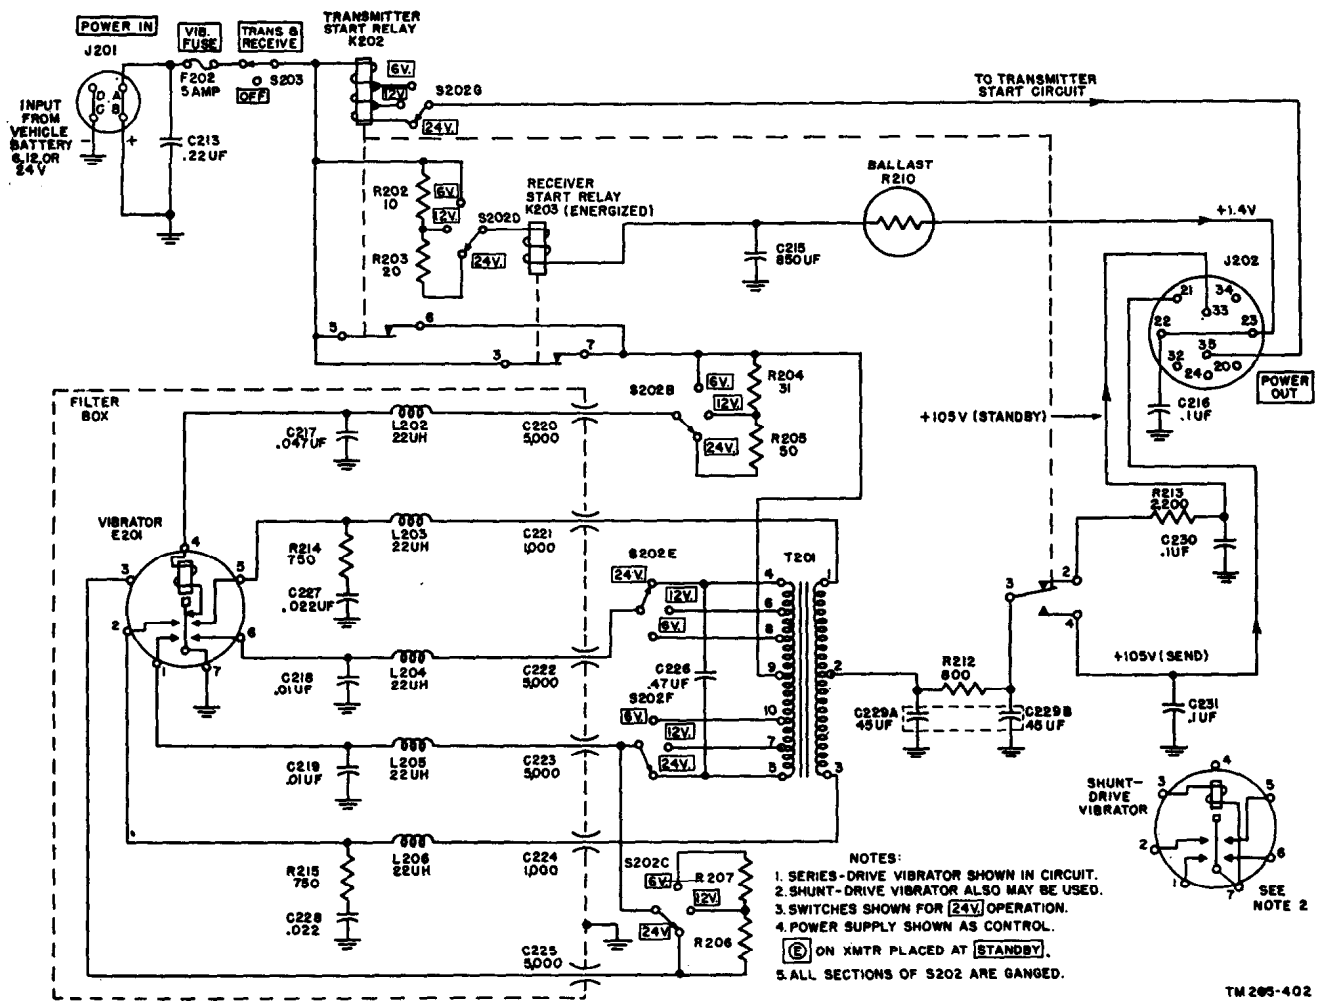

Figure 103. Dynamotor-Power Supply DY-88/GRC-9X vibrator and voltage selector switch S202, simplified schematic diagram.
#### 148. Fuses and Switches of Dynamotor-Power Supply DY-88/GRC-9 (fig. 103)
#### 149. Receiver Filament Supply of Dynamotor-Power Supply DY-88/GRC-9 (fig. 103)
#### 150. Receiver Plate and Screen Supply of Dynamotor-Power Supply DY-88/GRC-9 (fig. 103)
a. *Transmitter Start Relay.* When control Ⓢ is turned to the SEND position, transmitter start relay K202 is energized and contacts 11 and 12 close to apply power to dynamotor start relay K201. Voltage selector switch S202G (fig. 103) permits the relay to operate from a 6-, 12-, or 24-volt battery.
(figs. 103 and 104)